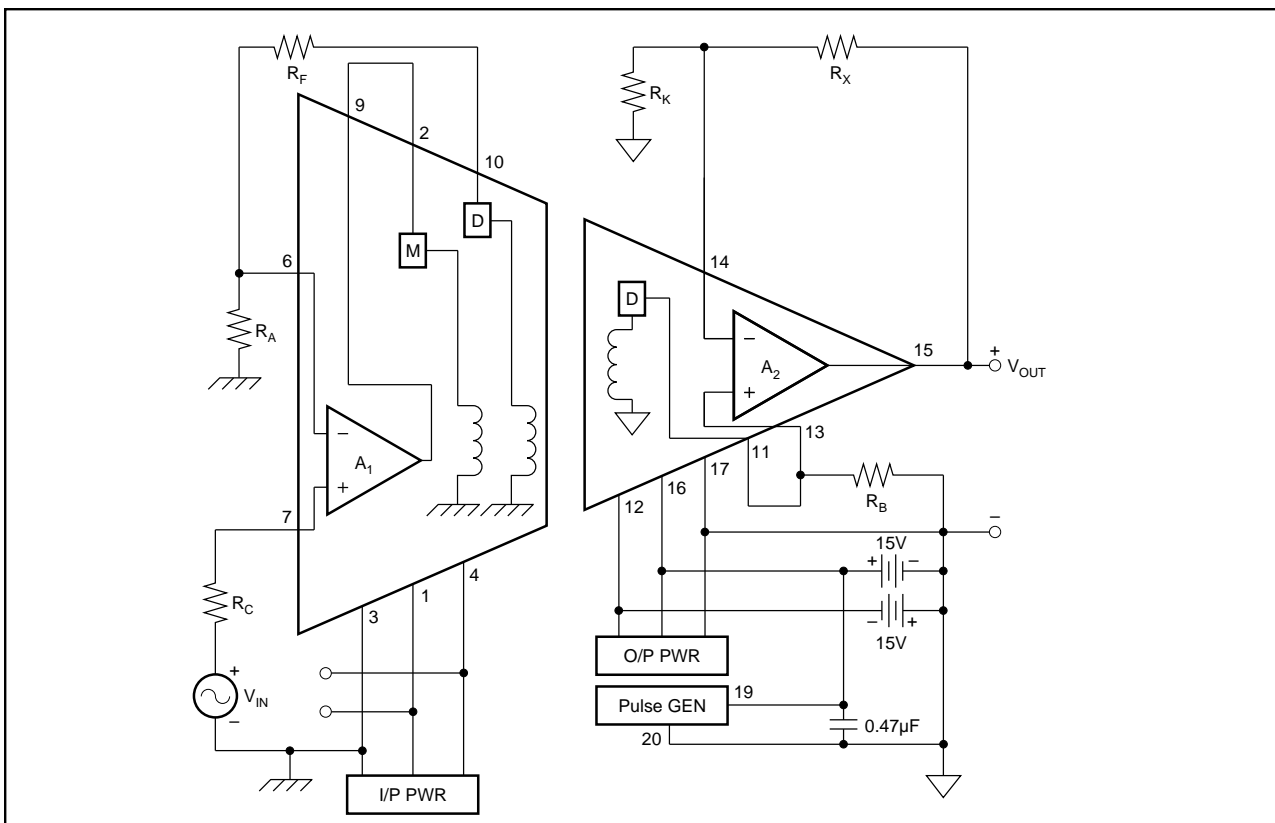

FIGURE 3. Power: Two-Port, Dual Supply; Signal: Noninverting Gain.
NOTES: (1) Ratings in parenthesis are between P- (pin 20) and O/P Com (pin 17). Other isolation ratings are between I/P Com and O/P Com or I/P Com and P-. (2) See Performance Curves. (3) May be trimmed to zero. (4) If output swing is unipolar, or if the output is not loaded, specification same as if external supply were used. (5) Includes effects of A_1 and A_2 offset voltages and bias currents if recommended resistors used. (6) Versus the sum of all external currents drawn from V+, V-, +V, -V (= ISO). (7) Effects of A_1 and A_2 bias currents and offset currents are included in Offset Voltage specifications. (8) With respect to I/P Com (pin 3) for A_1 , and with respect to O/P Com (pin 17) for A_2 . CMR for A_1 and A_2 is 100dB, typical. (9) In configuration of Figure 3. Ripple frequency approximately 750kHz. Measurement bandwidth is 30kHz. (10) Decreases linearly from 16VDC at 85°C to 12VDC at 100°C. (11) Instantaneous peak current required from pins 19 and 20 at turn-on is 100mA for slow rising voltages (50ms) and 300mA for fast rises (50μs). (12) Load current is sum drawn from +V, -V, V+, V- (= I_{ISO}). (13) Maximum voltage rating at pins 1 and 4 is ±18VDC; maximum voltage rating at pins 12 and 16 is ±18VDC. (14) Isolation ratings may degrade if exposed to 125°C for more than 1000 hours or 90°C for more than 50,000 hours.
Figure 3 shows two-port isolation which uses an external bipolar supply with its common connected to the output stage ground (pin 17). One of the supplies (either + or - could be used) provides power to the pulse generator (pins 19 and 20). The same sort of configuration is possible with the external supplies connected to the input stage. With the connection shown, filtering at pins 12 and 16 is not required. In this configuration continuous isolation voltage rating is: 3500VDC between pins 3 and 17; not applicable between pins 17 and 19; 3500VDC between pins 3 and 19.
The signal path portion of Figure 3 demonstrates two additional gain configurations: gain in the output stage and noninverting gain in the input stage. The following equations apply:
Use the resistor values obtained in Steps 3, 4, 8 and 9, and connect the 3656 as shown in Figure 3.